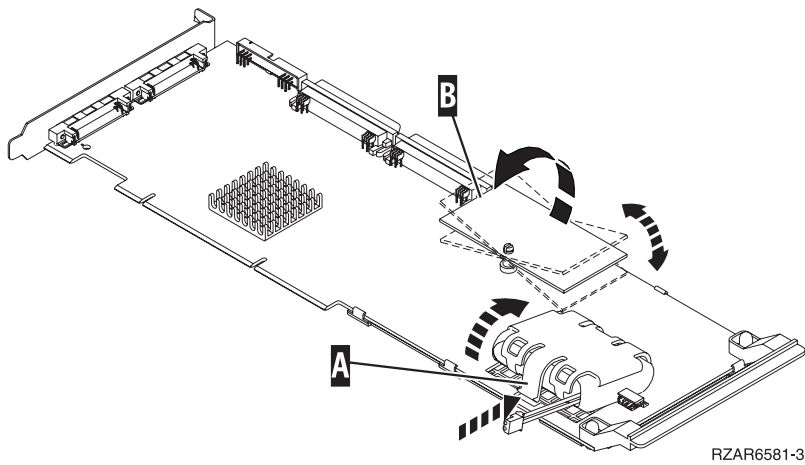
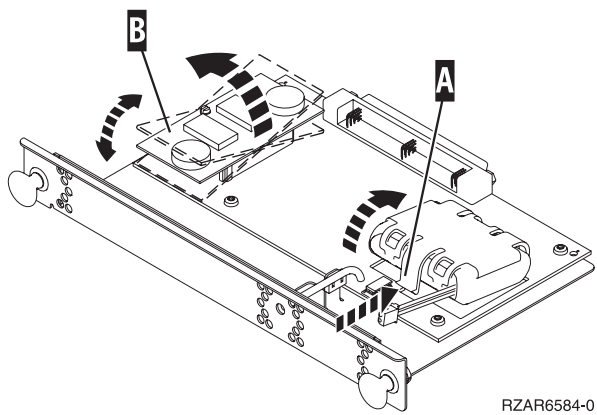
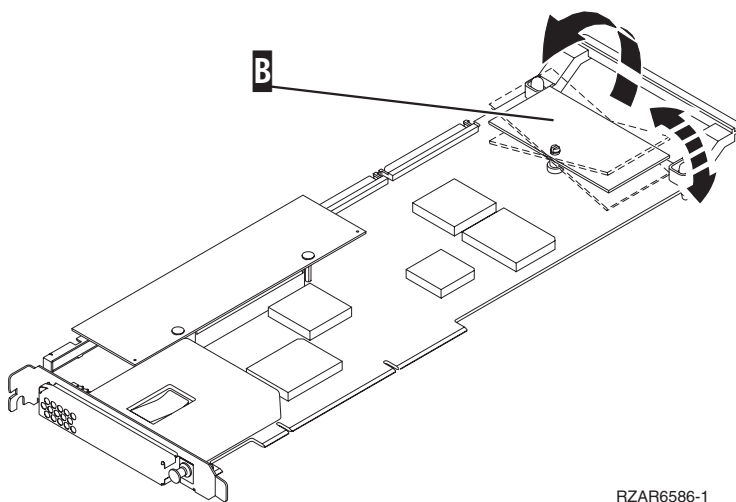
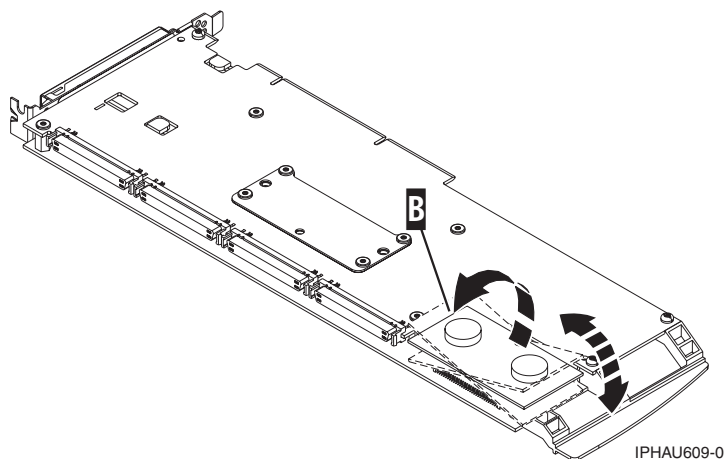

Figure 20.
Figure 21.
Figure 22.
Figure 23.
2. Locate the cache directory card **B**. It is a small rectangular card mounted on the I/O card (see Figure 20 on page 164, Figure 21 on page 164, Figure 22 on page 164 or Figure 23 on page 165 below).